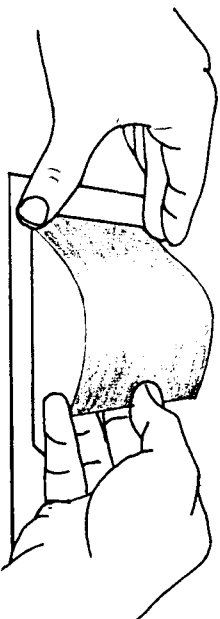

Fig. 4
4. While lightly pressing down the left corners of the film with the left index finger and thumb, arch the film as shown in Fig. 4, and rest the right small finger and knuckle on the film holder to prevent it from moving about.